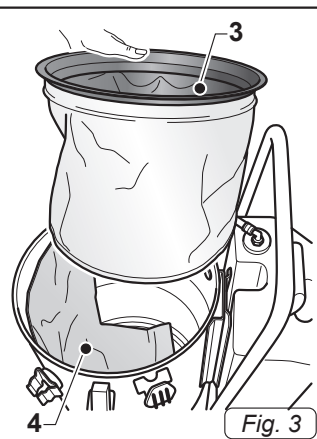

Fig. 3
- Remove the polyester filter (3 Fig. 3).
- Check that the paper bag (4 Fig. 3) is in place inside the appliance.
- If the paper bag (4 Fig.3) is not present, mount it as follows:
- Reassemble the polyester filter (3 Fig. 3).